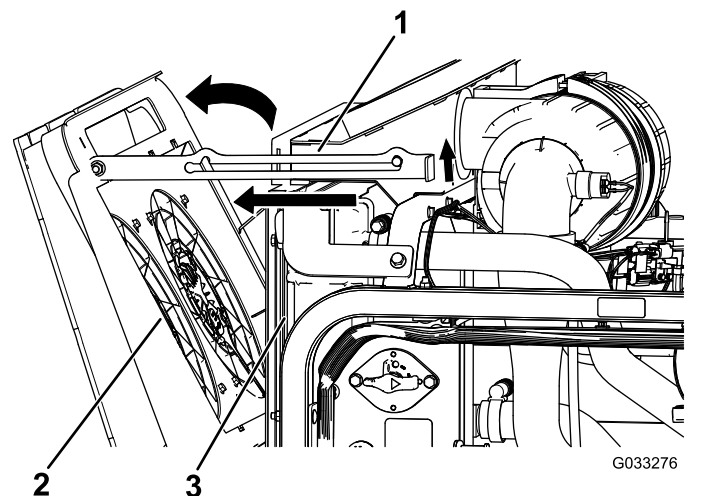

Figure 117
2. Pivot the engine-cooling fans rearward of the radiator and lock the prop rod into the notch (Figure 117).